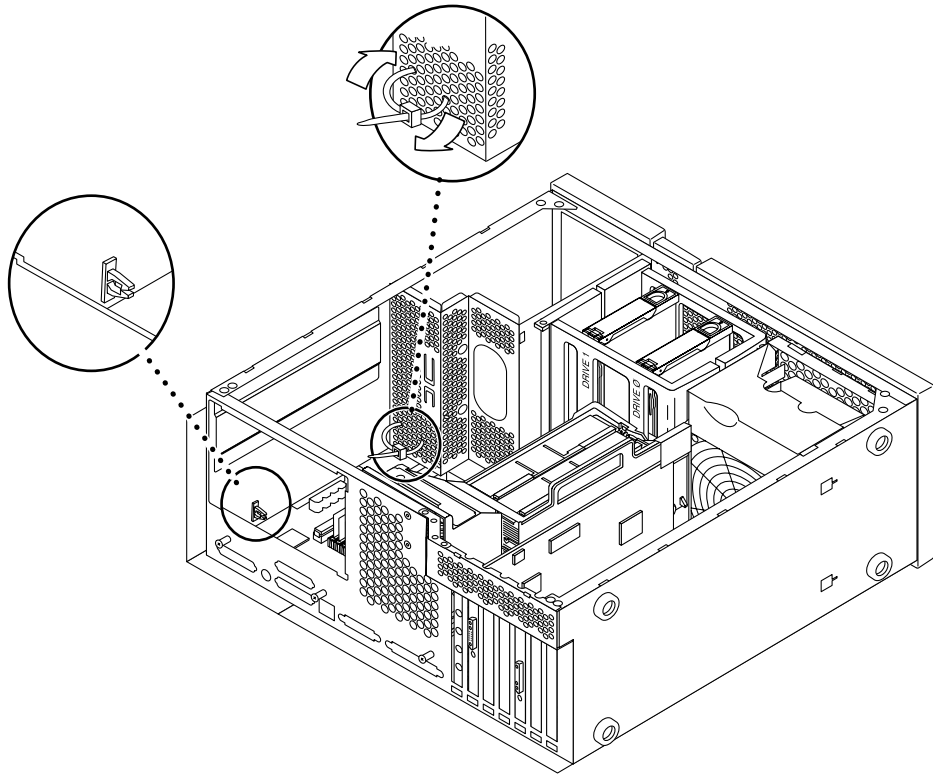

FIGURE 1-4 Placing the Nylon Tie Wrap and Wiring Routing Clip
1. Insert the nylon tie wrap in the system internal chassis as shown in FIGURE 1-4.
2. Install the wiring routing clip inside the chassis, as shown in FIGURE 1-4.